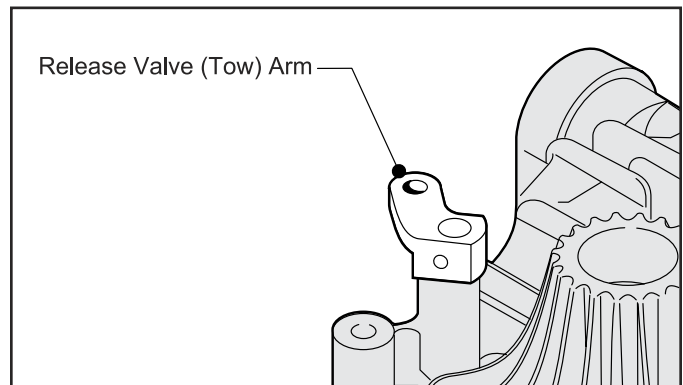

Fig. 2, Release Valve Arm Assembly
- ◆ From the reverse side of the Upper Case, mount the Release Valve Arm onto the Bypass Shaft; then, align and secure with Roll Pin. (Fig. 2)